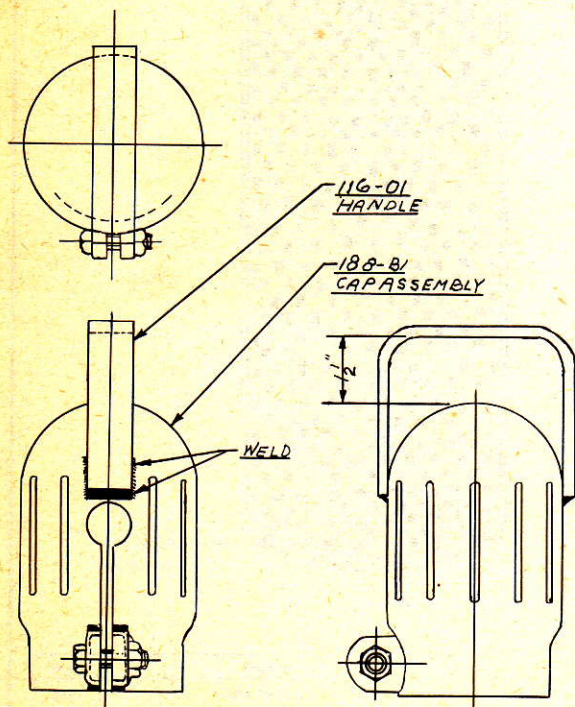

FIGURE 20-4.—Adjustable lifting cap for A-25 and A-50 cylinders.
A. Caps—Lifting cylinders.—Steel screw-on caps, provided for all except A-300 cylinders, should be kept screwed in place at all times during handling and when not actually in service. The A-300 cylinder is equipped with a forged steel bail to protect the valve and to be used in lifting. The A-25's and A-50's have no such bail and must be handled with a sling around the body or by the special screw-on lifting cap (an ordinary cap may be modified in the field by cutting side holes or slots to take a hook, or by welding a padeye on the top). For cylinders with worn or nonstandard threads on the neck ring, split adjustable protection and lifting caps are available from the A. G. A. Co. (See fig. 20-4.) Pulling, twisting, or lifting cylinders by making fast around the neck of the valve should be avoided.